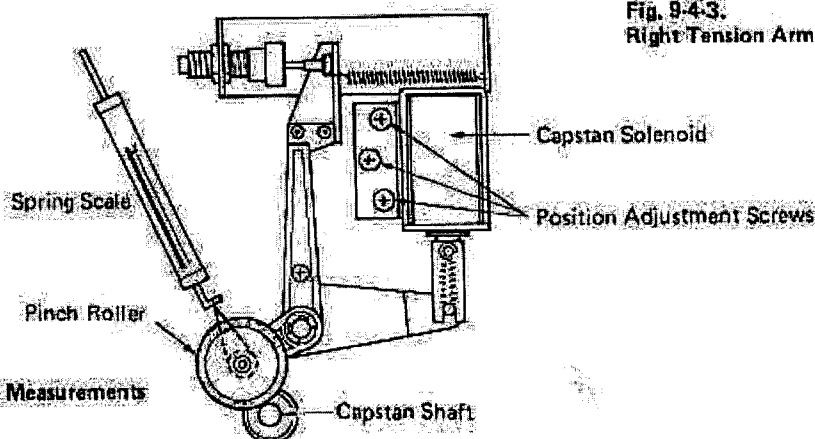

Fig. 9-4-4. Pinch Roller Pressure Measurements and Adjustments
1. Insert something soft or foldable between the tension arm and the opening on the front panel (A) so that the unit will be operative.
2. Attach string to the pinch roller shaft and a spring scale to the string, as shown in Fig. 9-4-4.